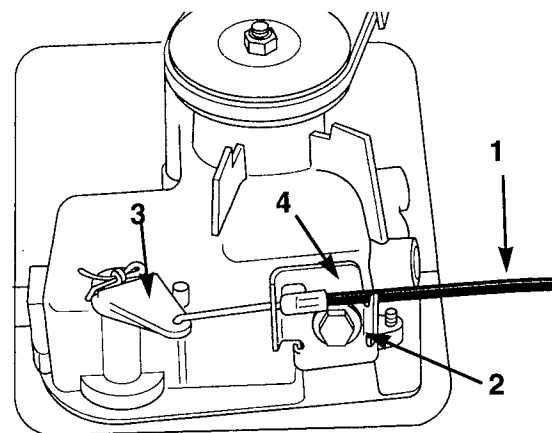

Figure 65
- A. Remove the hex-head screw holding the shift cable bracket on the transmission (Fig. 65).
- B. Rotate the shift cable and bracket assembly upward and remove the cable hook from the shift lever (Fig. 65).